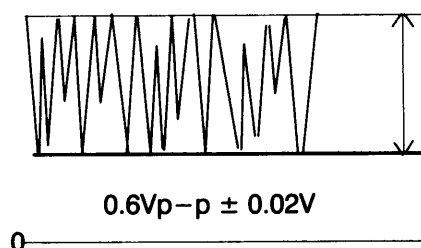

Fig. 8
1. Adjust **R3515** to obtain the waveform as shown in Fig.8.